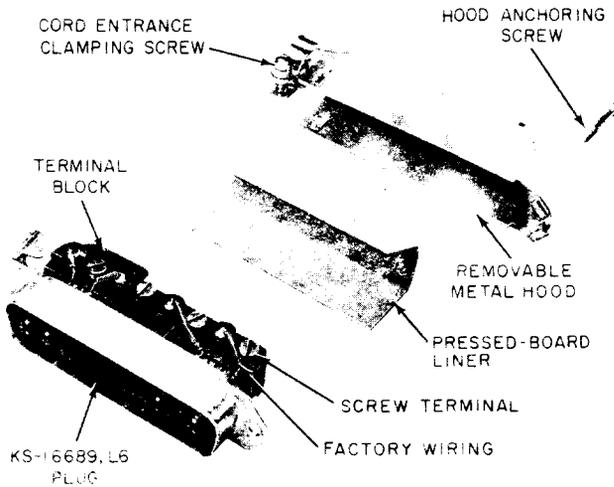

Fig. 10—153A Adapter
2.24 A removable metal hood (Fig. 10) with a pressed-board liner contains and protects spade-tipped cord leads or wire conductors terminated beneath the screw terminals. If the liner is of early production design and has an opening in the top